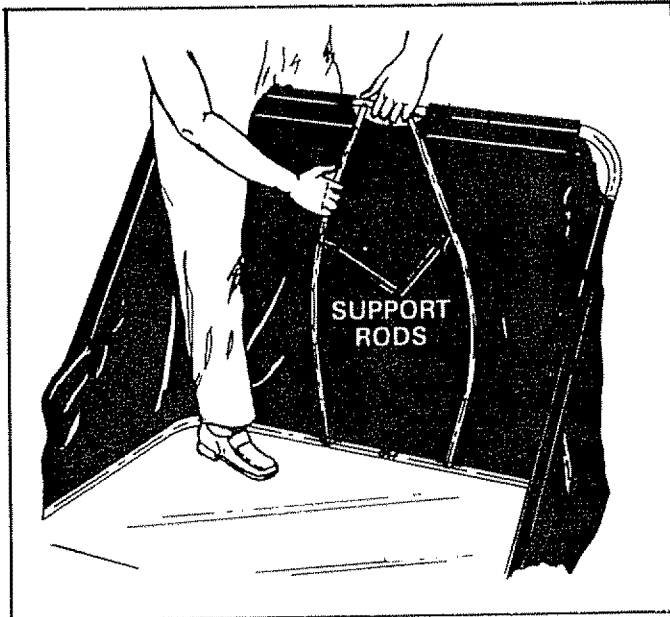

FIGURE 18
RODS ARE SPRING STEEL AND REQUIRE BENDING OR BOWING AS SHOWN BELOW IN FIGURE 18. DO NOT OVER BEND AND LOSE BAG SUPPORT TENSION.
10. Assemble the two hopper support rods as shown in figure 18. Place top end of rod into hole in upper tube and bend rod outwards and snap bottom end of rod into hole in bottom tube.